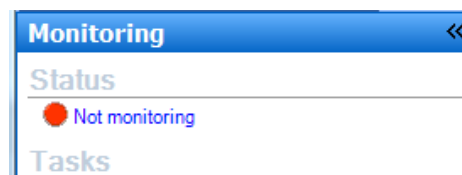

Figure 9-3
- c. Once it has stopped you will see a red dot and it will say “Not Monitoring”. See Figure 9-3.